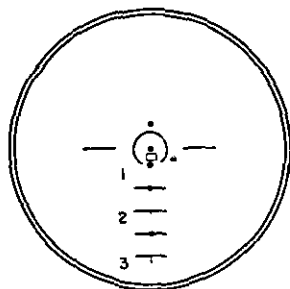

FIGURE 57.
16. The burst appears as shown in the sight picture (fig. 57). What does the gunner do?